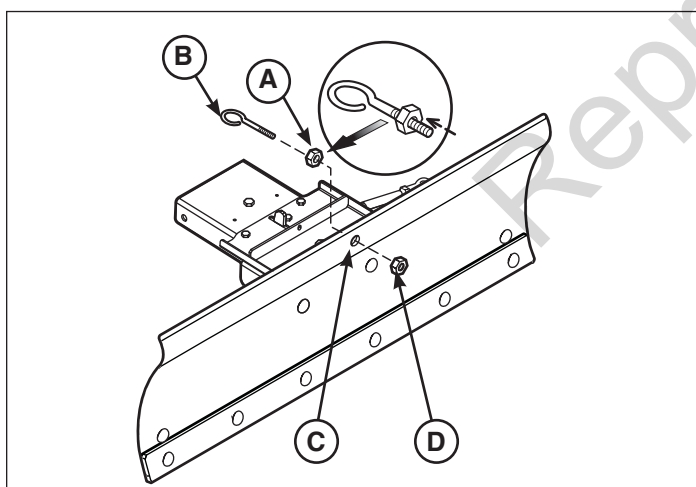

Figure 8
2. Secure the hex nut (A, Figure 8) onto long eyebolt (B). Tighten the eyebolt locknut toward top of threads. See Figure 8 inset.
3. Insert long eyebolt / locknut through the hole (C) at top of the blade and secure with additional hex nut (D).